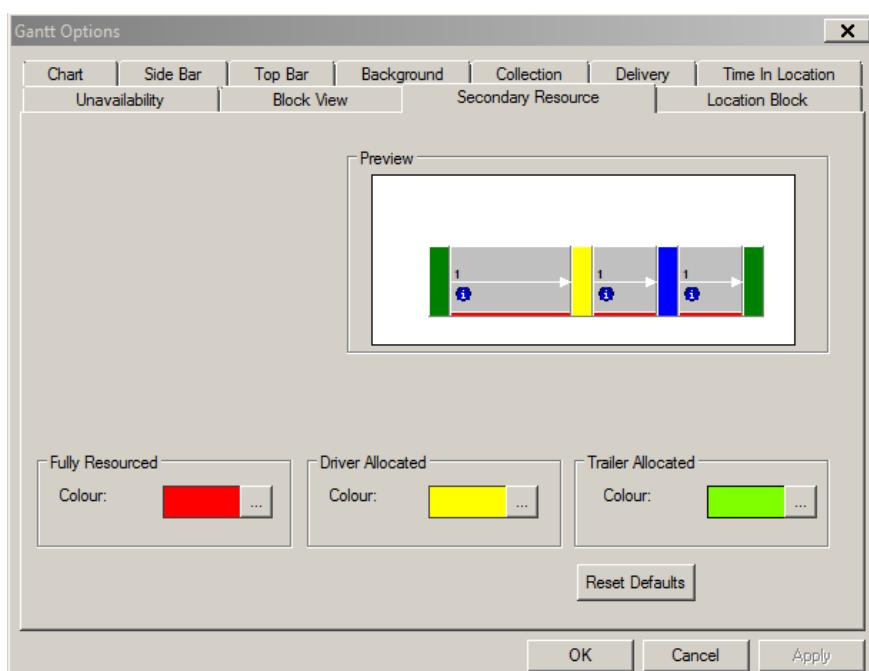

Figure 198
3. Click the **Secondary Resource** Tab (Figure 198)